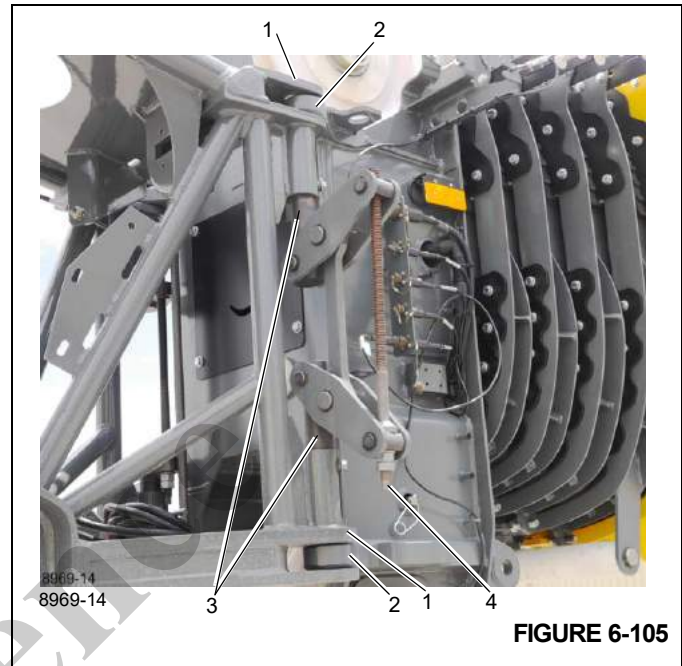

FIGURE 6-105
16. Swing the extension around to engage the base extension anchor fittings (1), (Figure 6-105) with the main boom attachment fittings (2), (Figure 6-105). Insert the pins (3), (Figure 6-105) through the fittings using an
impact driver turning the jack screw (4), (Figure 6-105) counterclockwise. The jack screw drive bolt will bottom out when the pins are fully engaged.